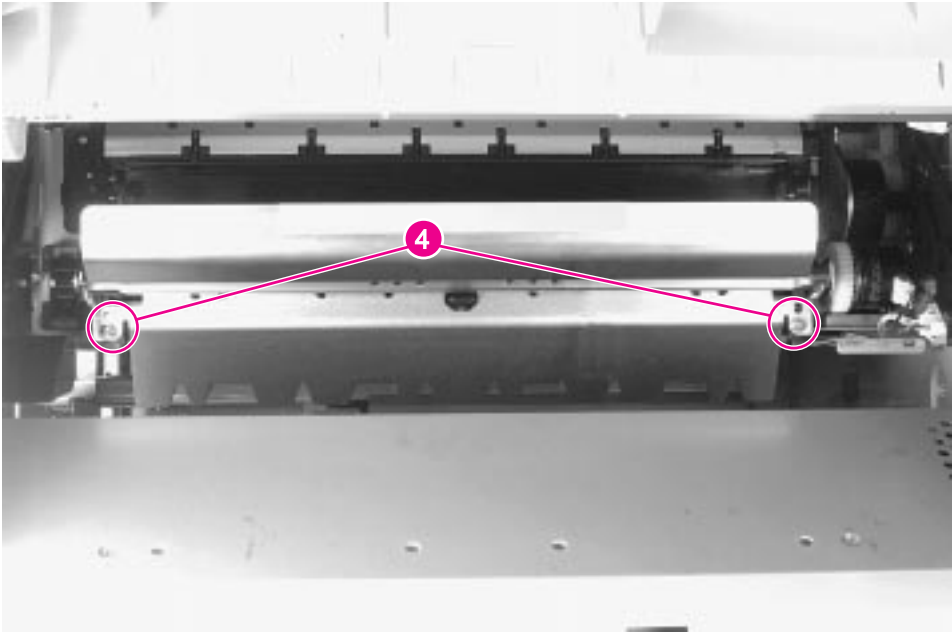

Figure 6-45 Registration Assembly (3 of 3)
- 6 Lift the registration guide and remove 2 screws at the front of the assembly (figure 6-45, callout 4).